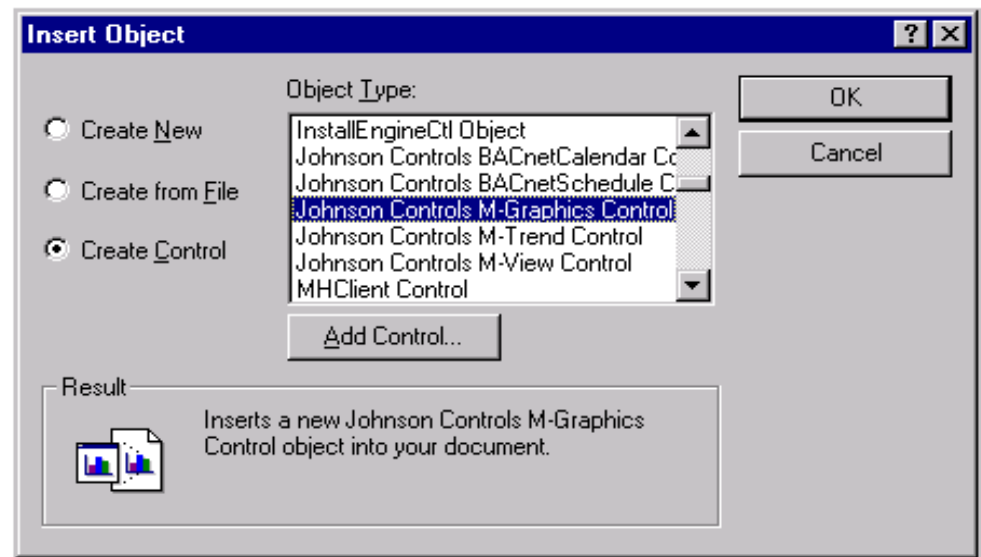

Figure 13-1: Insert Object Dialog Box
1. From the Edit menu, select Insert New Object. The Insert Object dialog box appears (Figure 13-1).